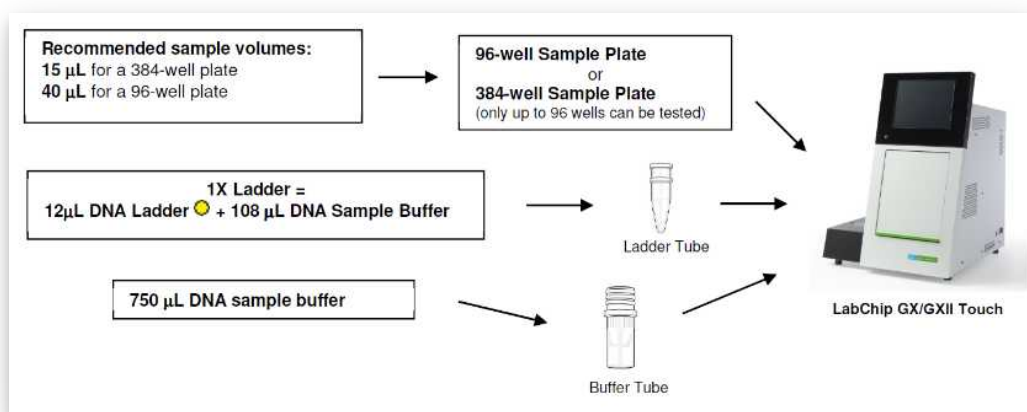

Figure 10: Standard sample workflow.
- This workflow requires only 2 µL of PCR sample respecting the average concentration per fragment of each kit. Despite the original protocol (**Figure 10**) works with 40 µL final volume. **We have use 30 µL.**